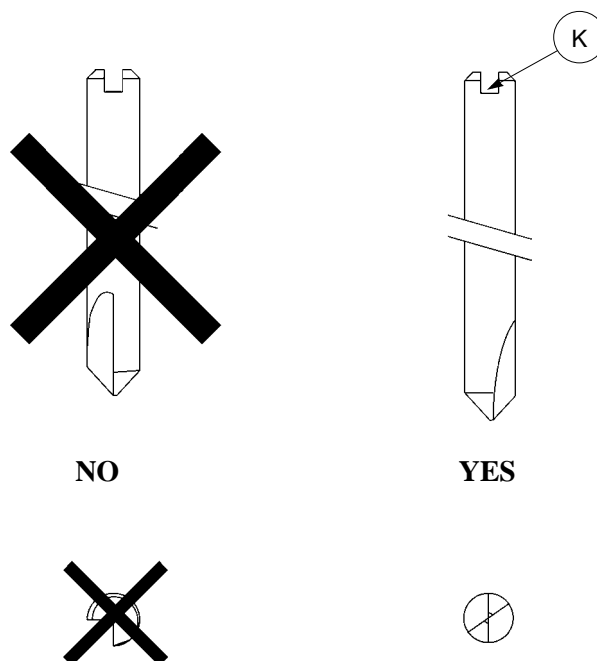

Fig. 15
- fit the tool all the way into the spindle, **turning until it clicks into place in the groove (K) on the tool (fig. 15, page 16).**